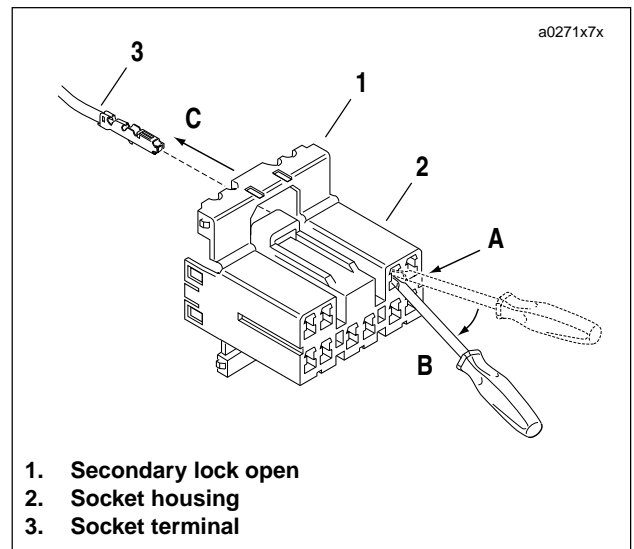
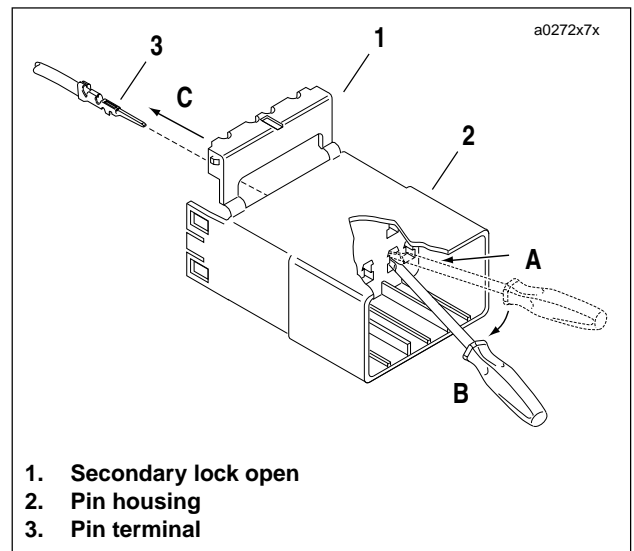

Figure B-6. Socket Terminals
Figure B-7. Pin Terminals
7. Remove socket terminal (Figure B-6.) or pin terminal (Figure B-7.)
- a. If installing socket terminals, see Figure B-6.
- b. If installing pin terminals, see Figure B-7.